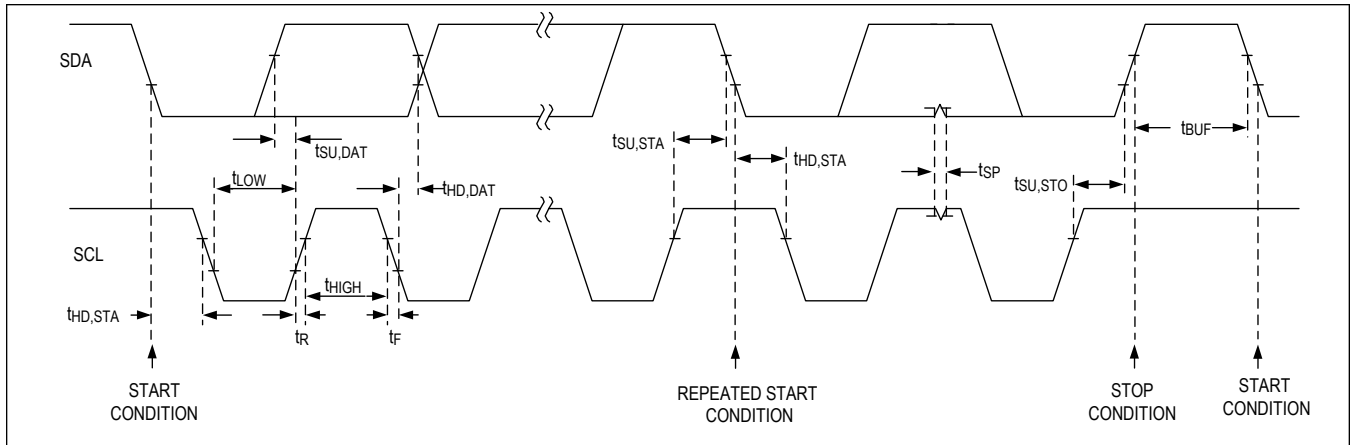

Figure 32. I2C Interface Timing Diagram
The device features an I2C-compatible, 2-wire serial interface consisting of a serial data line (SDA) and a serial clock line (SCL). SDA and SCL facilitate communication between the device and the master at clock rates up to 1MHz. Figure 32 shows the 2-wire interface timing diagram. The master generates SCL and initiates data transfer on the bus. The master device writes data to the device by transmitting the proper slave address followed by two register address bytes (most significant byte first) and then the data word. Each transmit sequence is framed by a START (S) or REPEATED START (Sr) condition and a STOP (P) condition. Each word transmitted to the device is 8-bits long and is followed by an acknowledge clock pulse. A master reading data from the device transmits the proper slave address followed by a series of nine SCL pulses. The device transmits data on SDA in sync with the master-generated SCL pulses. The master acknowledges receipt of each byte of data. Each read sequence is framed by a START (S) or REPEATED START (Sr) condition, a not acknowledge, and a STOP (P) condition. SDA operates as both an input and an open-drain output. A pullup resistor, typically greater than 500Ω, is required on SDA. SCL operates only as an input. A pullup resistor, typically greater than 500Ω, is required on SCL if there are multiple masters on the bus, or if the single master has an open-drain SCL output. Series resistors in line with SDA and SCL are optional. Series resistors protect the digital inputs of the device from high voltage spikes on the bus lines, and minimize crosstalk and undershoot of the bus signals.